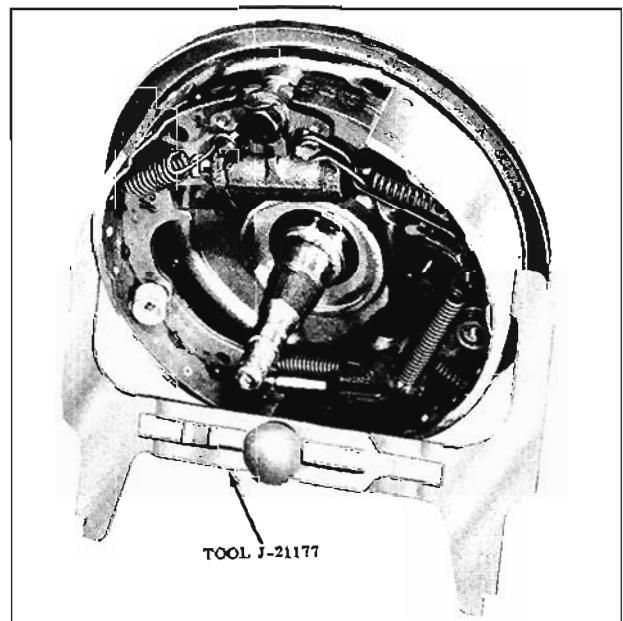

Fig. 11-5 Checking Lining
2. Position the brake shoe end (outside diameter measuring caliper) of Tool J-21177 over the brake shoes as shown in Fig. 11-5. Rotate gauge slightly around shoes to insure that gauge contacts the linings at the largest diameter. Adjust brake shoes until gauge is a snug fit on linings at the point of largest lining diameter.